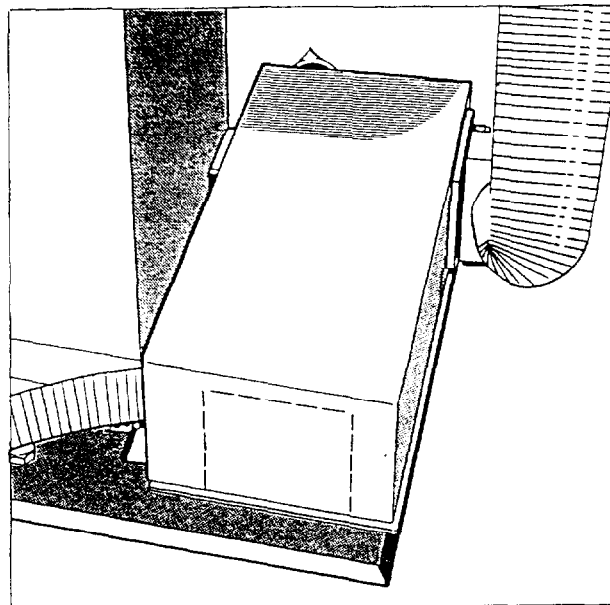

Fig. 20
- Place the cover over the cable distributor and fasten with screws (Fig.20).